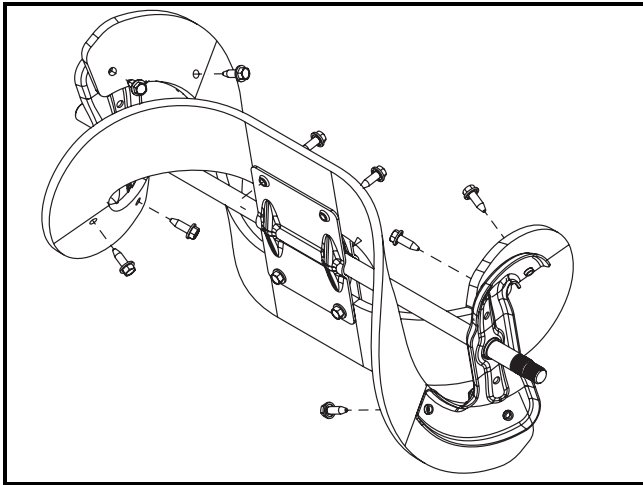

FIGURE 3
7. Note how the existing paddles are mounted to the auger frame. Refer to Figure 3.